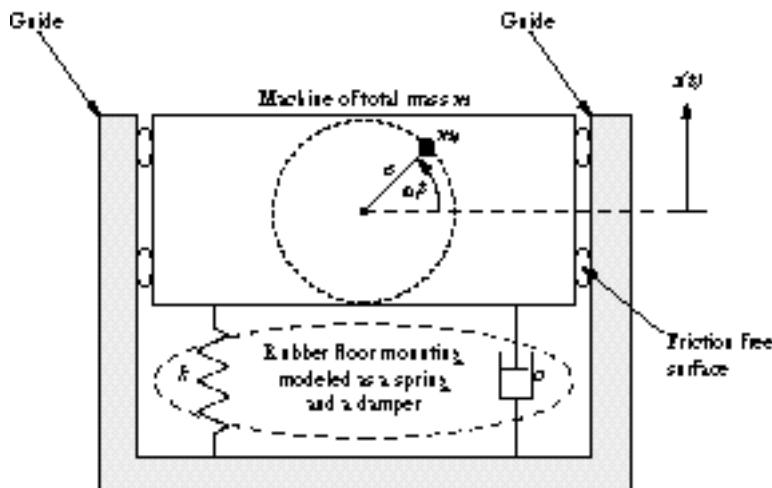

Figure P2.57 Typical unbalance machine problem.
- 2.57** Consider a typical unbalanced machine problem as given in Figure P2.57 with a machine mass of 120 kg, a mount stiffness of 800 kN/m and a damping value of 500 kg/s. The out of balance force is measured to be 374 N at a running speed of 3000 rev/min. a) Determine the amplitude of motion due to the out of balance. b) If the out of balance mass is estimated to be 1% of the total mass, estimate the value of the e .